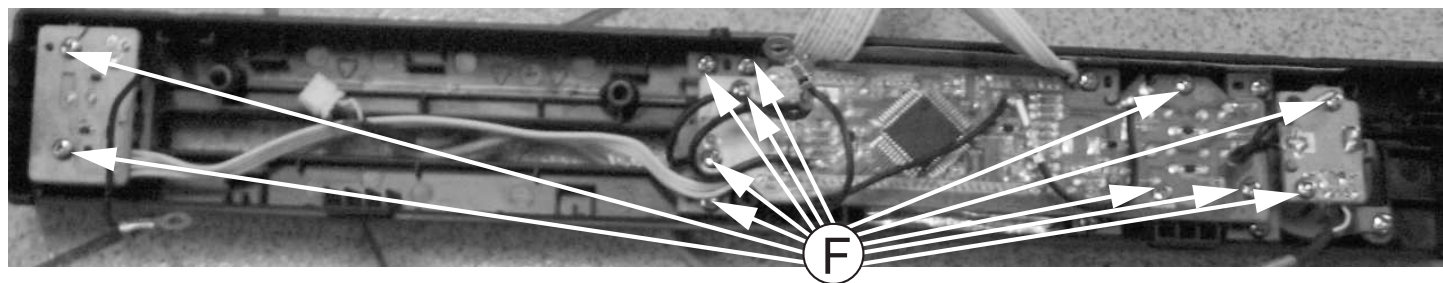

Figure 9
- 1) Loosen 12 screws "F" on the top of VFD+JACK+STANDBY Board as shown in figure 9.